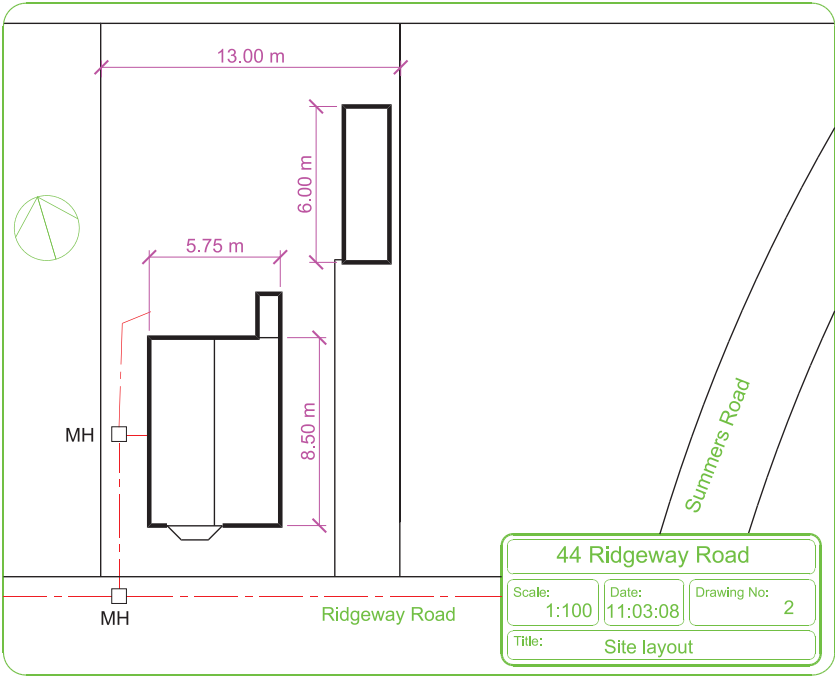

Fig. 16.2 A site layout plan
2. a site layout plan of the original house, drawn to a scale of **1:100** (Fig. 16.2);